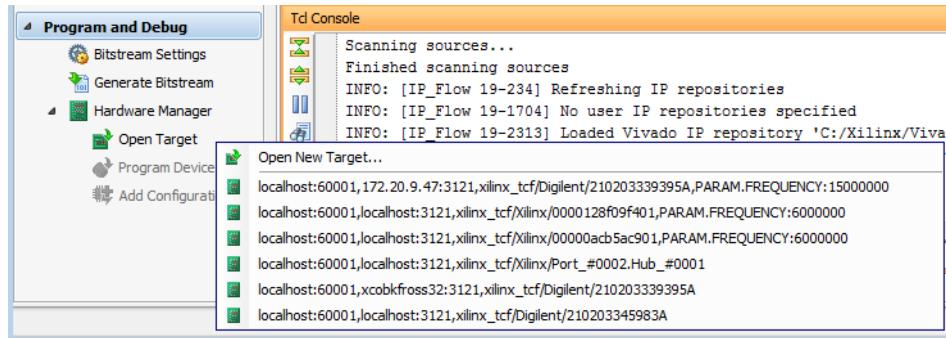

Figure 4-1: Using the Flow Navigator to Open a Hardware Target
- Use the **Open Target** selection under **Hardware Manager** in the **Program and Debug** section of the Vivado flow navigator to open new or recent hardware targets (see Figure 4-1).